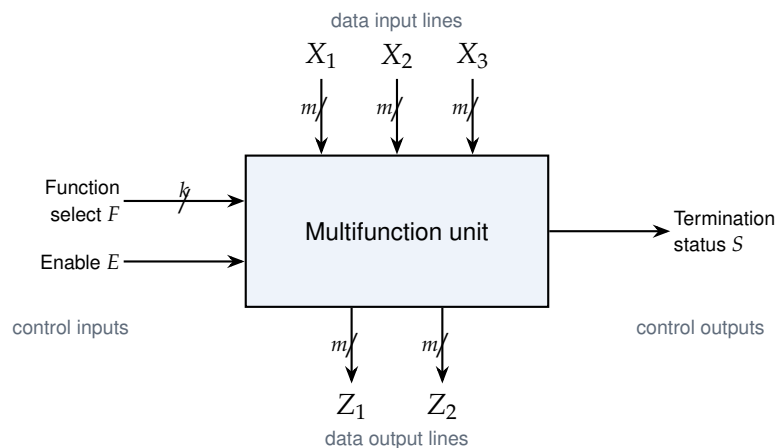

Figure 3.2: A generic register-level multifunction unit.
The generic RTL component (Figure 3.2) has m -bit **data input lines** $X_1, X_2, X_3, \dots$, a k -bit **function select** F choosing one of up to 2^k operations, an **enable** E , **data output lines** Z_1, Z_2 , and a **termination status** S that tells a controller the operation has finished (needed for multi-cycle operations such as division). Control inputs (F, E) come from the control unit; control outputs (S) go back to it. This split between *data* and *control* is the fundamental organizing principle of every processor: **datapath + controller**.